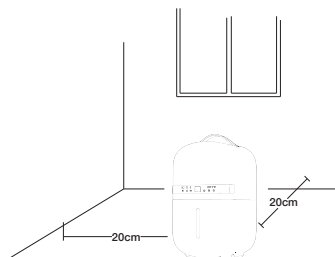

Fig. 1
1. Place the appliance on a level, stable and smooth surface. Maintain at least 20 cm of empty space on each side of the appliance to ensure free air circulation (Fig. 1).